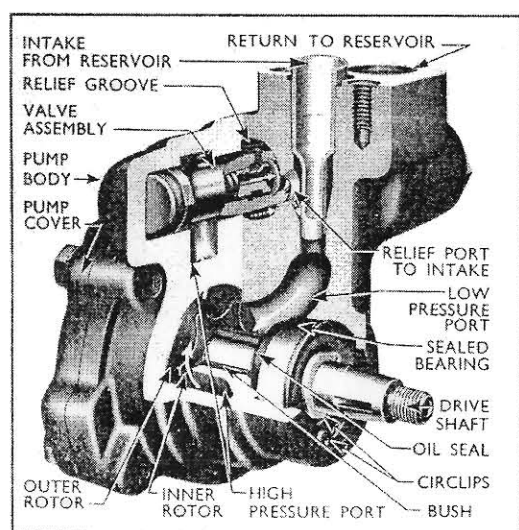

Fig. 2
2.) As the pump rotors turn the spaces formed between the rotor lobes increase and then decrease in volume with each revolution, propelling oil from the intake side of the pump to the outlet. (See solid arrows, Fig. 2.)
When the engine is idling the pump is operating at its minimum output which is, however, sufficient to provide power assistance. To limit pump output at higher engine speeds, a spool type spring-loaded flow control valve is provided in the pump body. The valve which is hollow and closed at one end has two metering orifices drilled through its walls. A pressure relief valve, which is also spring-loaded, is contained inside the flow control valve and is retained in position by means of a circlip. The flow control and pressure relief valve assembly is retained in the pump body by the oil outlet adaptor. (See Figs. 2 and 3.)
Oil from the pressure side of the pump flows into the chamber containing the flow control valve. A flat ground on the land at the closed end of the valve allows the oil to flow behind it. The oil also flows to the inside of the valve through the two metering orifices and from here, through the pressure relief valve and the pump outlet to the power cylinder assembly. (See Figs. 2 and 3.) When the pump speed is increased, due to an increase in engine speed, the pump output tends to exceed 2.75 Imp. galls. per minute (12.5 litres per minute). This creates a pressure differential between the outside and inside of the flow control valve, due to the restricted flow through the metering orifices, and the pressure at the closed end of the flow control valve (via the flat) then exceeds the pressure on the spring-loaded end so that the entire valve assembly moves and compresses the flow control valve spring. This action uncovers passages in the pump body which allow excess oil to flow back to the reservoir and to the intake side of the pump. (See dotted arrows, Fig. 2.) Thus, the pump output is limited to 2.75 Imp. galls. per minute (12.5 litres per minute) regardless of pump speed.
movement uncovers ports in the flow control valve and allows sufficient oil to return to the reservoir and to the intake side of the pump to prevent further pressure build-up. (See Figs. 2 and 3.)